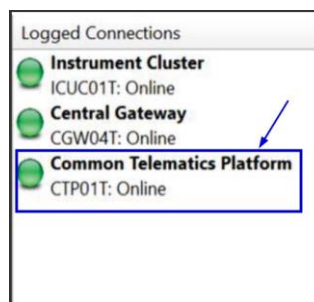

Figure 6 CTP Logged Connections
6. Validation that the CTP has connected can be confirmed by monitoring the Logged Connections in the lower left corner of the DiagnosticLink screen under Logged Connections **Fig. 6**, to see if the CTP shows a green dot. If no connection is made to the CTP01T then right-click in the Connections window, and select 'Close Connections.' If any failed controller connections remain, shown with a red indicator, right-click and select 'Clear All Connection Errors.' Manually connect to the CTP01T by clicking File > Connect and selecting the CTP01T.